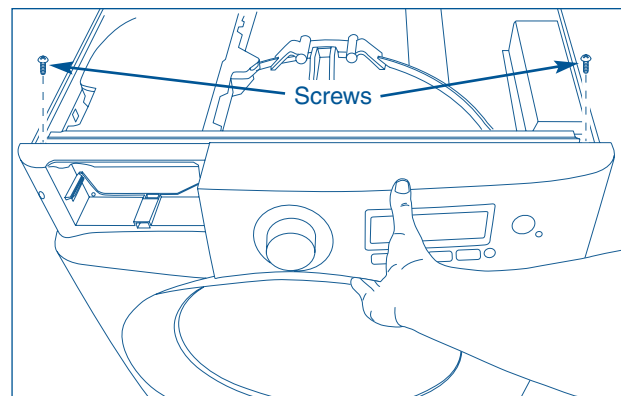

Figure 4-25.
3. From the top front of the washer, extract the two screws, one on each end, securing the console to the top of the side panels. (See Figure 4-25)